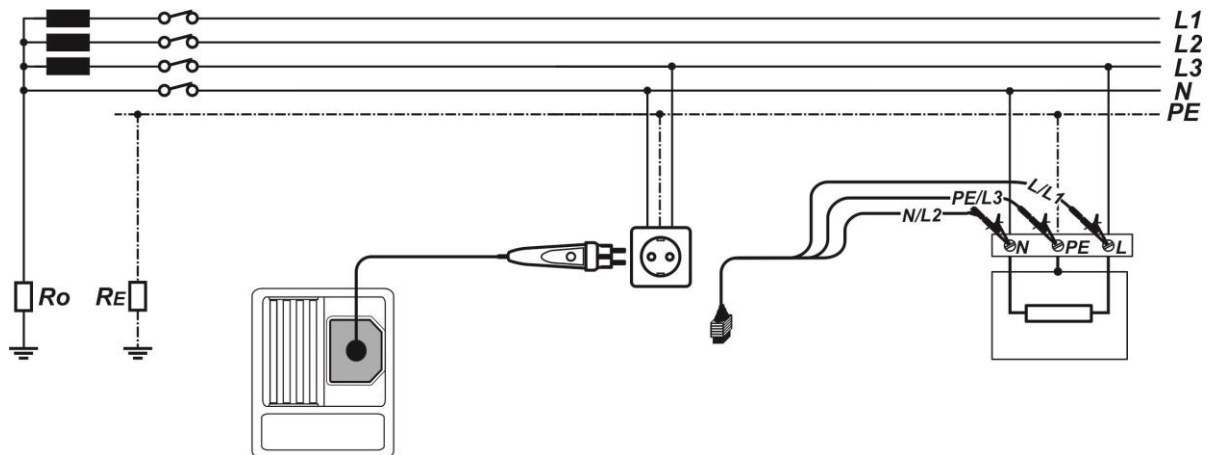

Figure 5.36: Connection of plug test cable and 3-wire test lead
- ❑ **Connect** test leads to the item to be tested (see *Figure 5.29* and *Figure 5.36*).